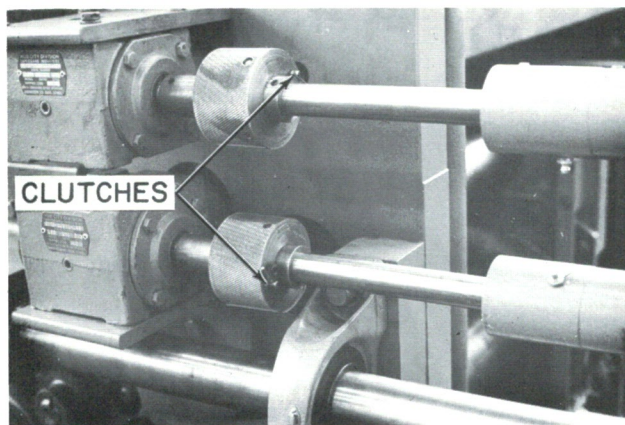
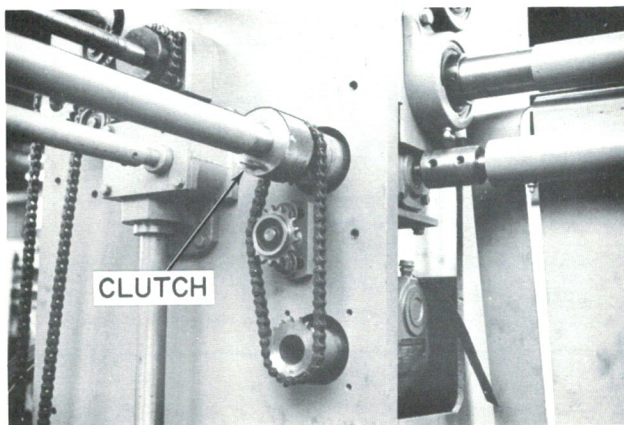

FIGURE 9-3. PANEL CLUTCHES
FIGURE 9-4. GLUE UNIT CLUTCH
Step 3) Disengage panel clutches (Figure 9-3) on drive side and glue unit clutch (Figure 9-4) located inside folding section feed end frame on drive side.